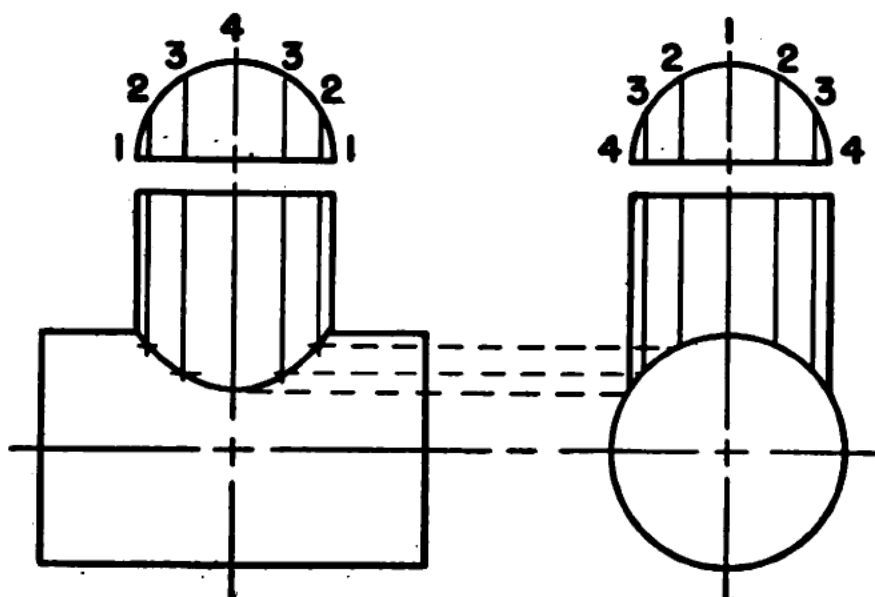

Figure 61.—Transferring elements to obtain miter line.
3. Draw the plan view above the constructed elevations (see fig. 61).
- a. Place your straightedge at right angles to the number 4 vertical element of the end view. Draw a broken horizontal line from number 4 element of the end view to number 4 element of the side view. Connect the other like numbered elements in the same manner. Remember that there are two elements numbered 3, 2, and 1 in the side elevation to be connected (see fig. 61).